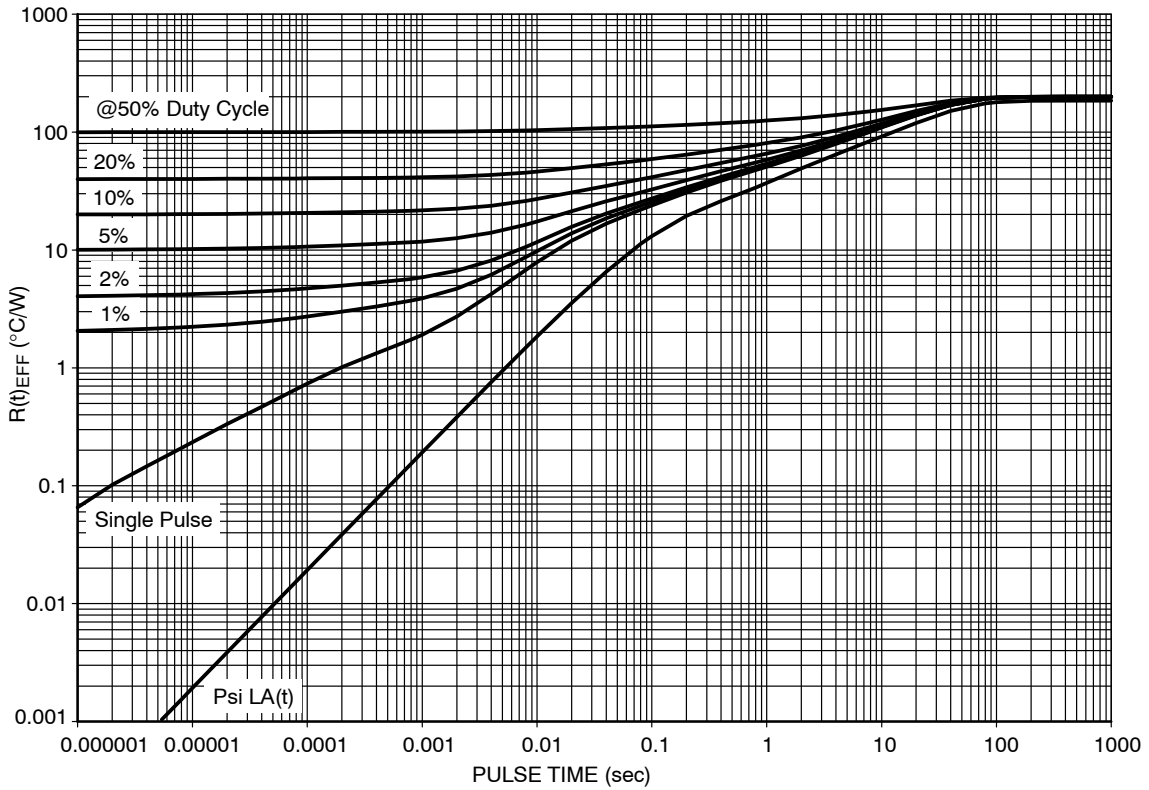

Figure 11. Thermal Response Minimum Pad Size
The subsequent sections outline the thermal performance of a WDFN6 506AN package. All values and equations are obtained from simulations and pertain to the Theta(DC) matrix with both MOSFETs operating at maximum power unless otherwise specified. A 10% duty cycle is arbitrarily chosen to evaluate various thermal responses. Refer to Figure 11 for thermal responses at varying duty cycles. The simulation models used to derive the results in this section are modeled around results obtained from physical testing and are considered reliable. Table 1 defines a set of parameters used throughout this section.
Figure 11 illustrates the packages change in effective thermal resistance with respect to pulse time. The plot reflects data sampled at a minimum recommended pad size (2 oz. Cu). Under steady state conditions the plot yields  $R(t)_{EFF} = 199.38^\circ\text{C/W}$ . Maintaining steady state conditions and increasing the copper area to 1.0 square inch, 2 oz Cu, will yield  $R(t)_{EFF} = 79.99^\circ\text{C/W}$ . These results show that this package exhibits more efficient thermal characteristics than